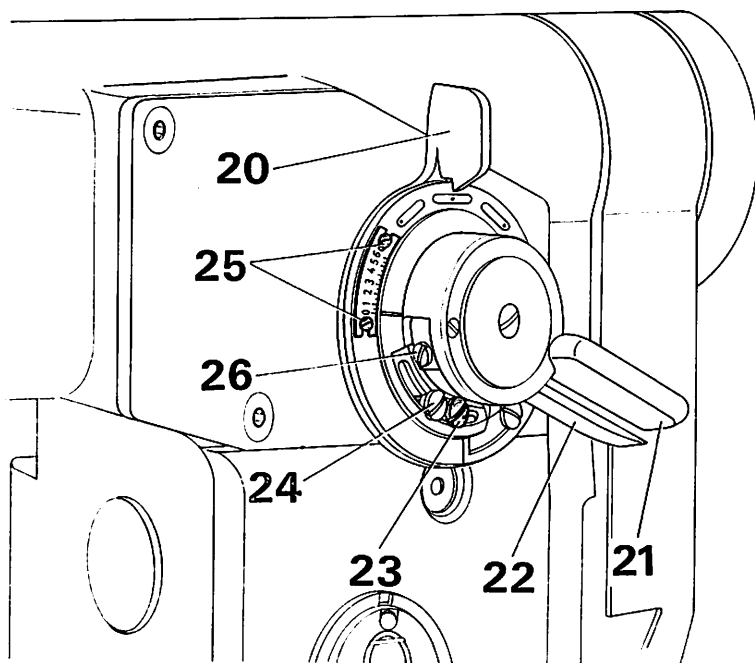

Fig. 6
4.1 Zeroing the Needle for Straight Stitching (Fig. 6)
4.2 Adjusting the Stitch Width Scale (Fig. 6)